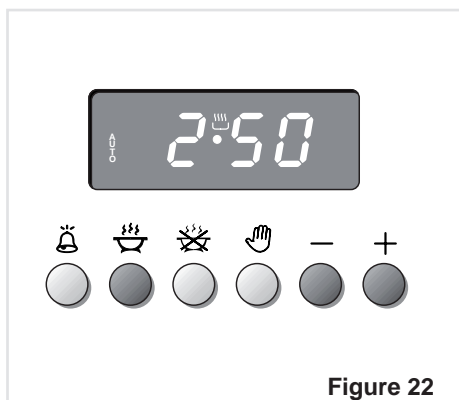

Figure 22
1. Set the length of the cooking time by pushing the  button and the  button to advance, or  to go backwards if you have passed the desired time (Fig. 22).